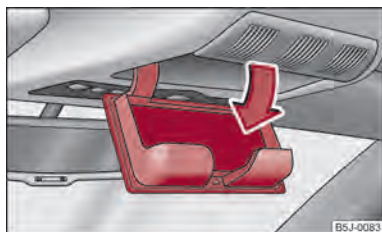

Fig. 70 Detail of the headliner: Stowage compartment for spectacles
- Press on the lid of the storage compartment, the storage compartment opens downwards ⇒ fig. 70.